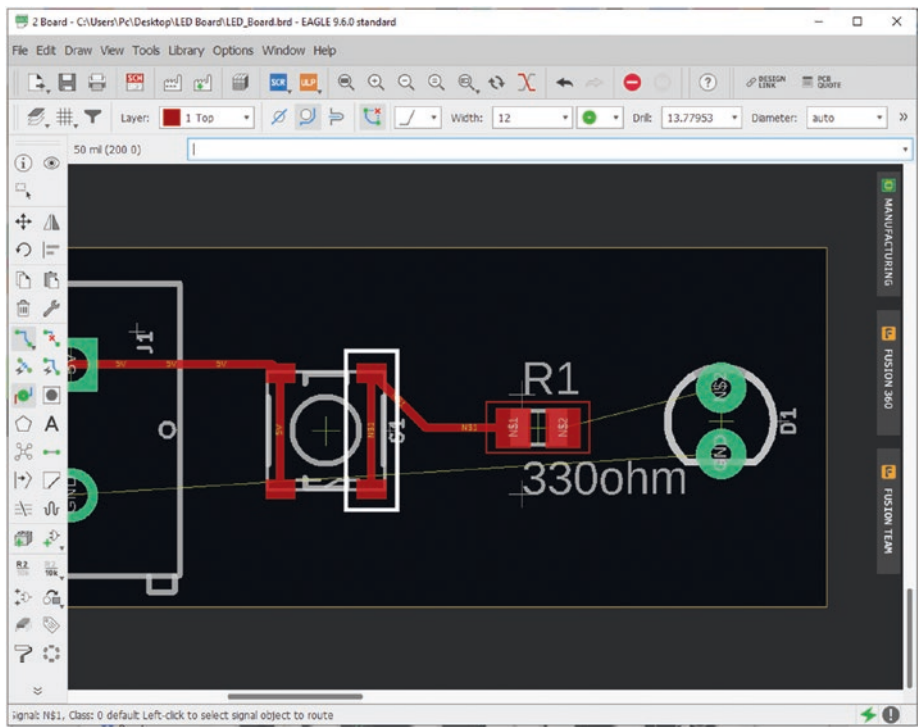

Figure 5-74. *Connect buttons right side*
- 23. Left-click the top-right contact on the push button again and connect it to the right-bottom contact “N\$1.” See Figure 5-74.